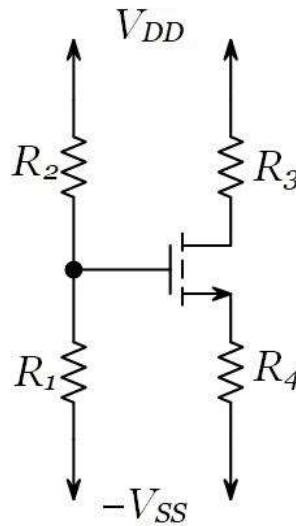

Figure 3.5. Using voltage divider bias with a MOSFET.
30. Build the circuit in Figure 3.5. Use  $R_1 = 120\text{k}\Omega$ ,  $R_2 = 100\text{k}\Omega$ , and  $R_3 = R_4 = 1\text{k}\Omega$ . Use the CD4007 Q1(N) as your MOSFET (pins 6, 7, and 8 for gate, source, and drain, respectively). Use the V+ from the AD2 to set  $V_{DD}$  and set it to 5V. Use the V- to set  $-V_{SS}$  and set it to -5V.